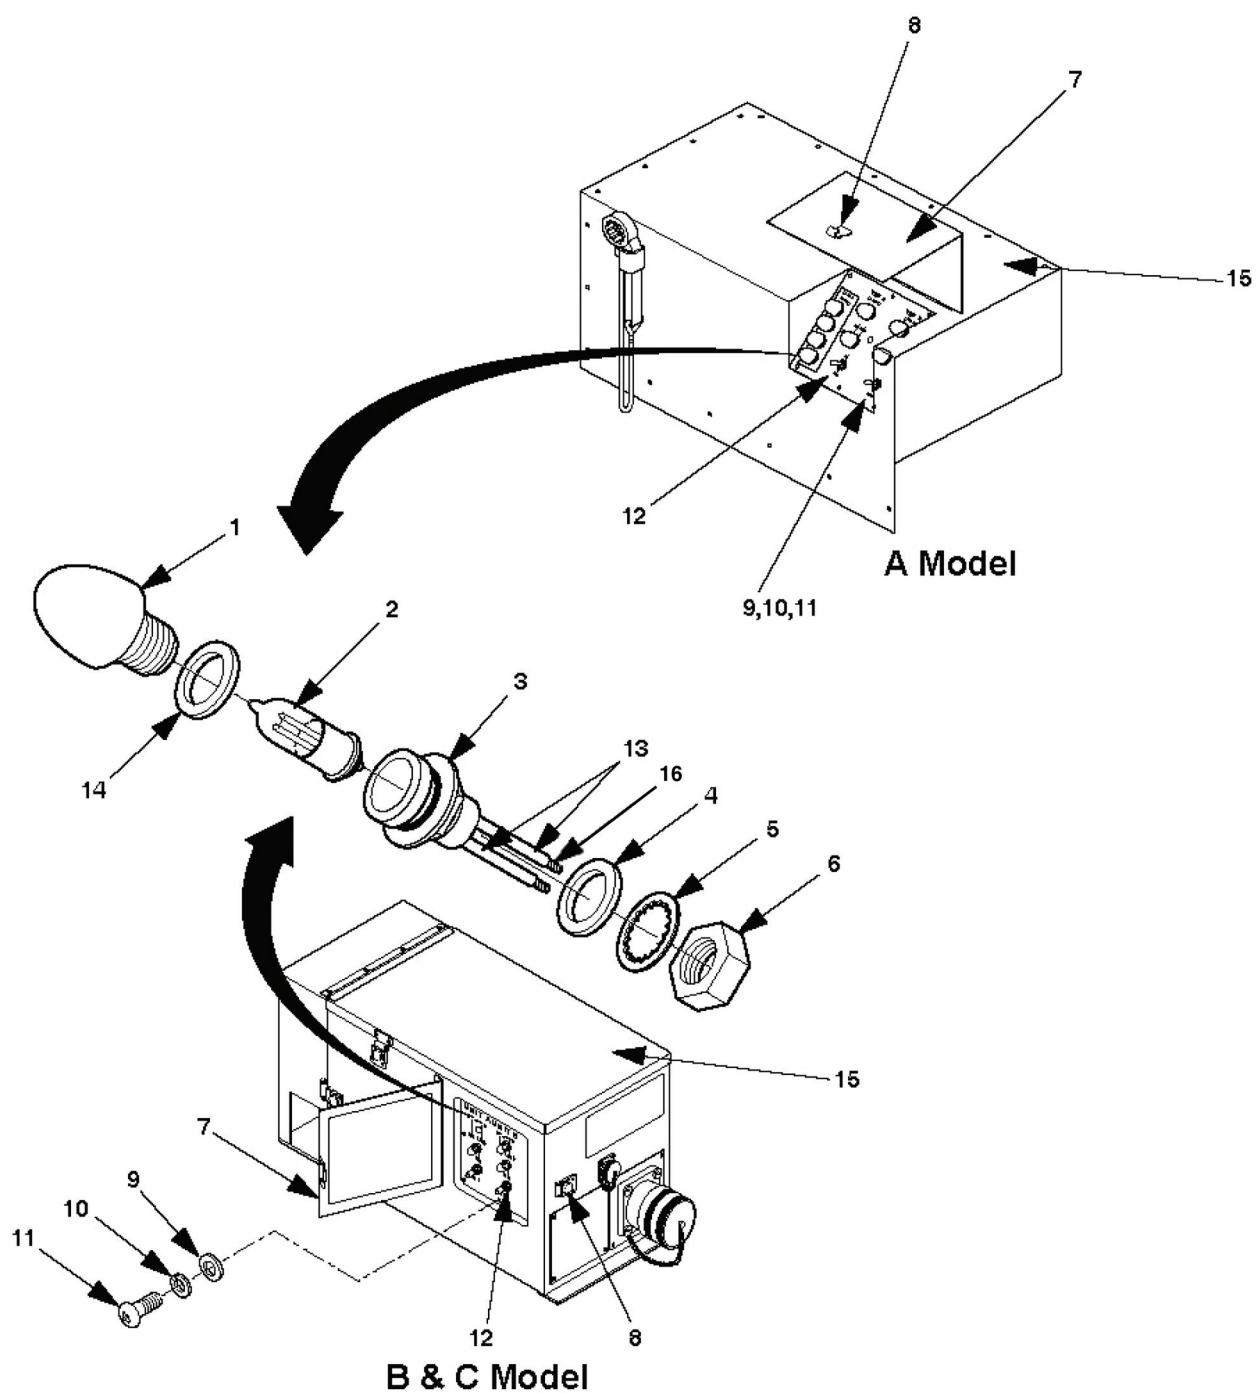

Figure 4-14. Indicator Light Replacement
1. Release clamping catch (8, figure 4-14) and open control panel access cover (7).
2. Remove screws (11), flat washers (9), lock washers (10) and control panel assembly (12). Discard lock washers (10).